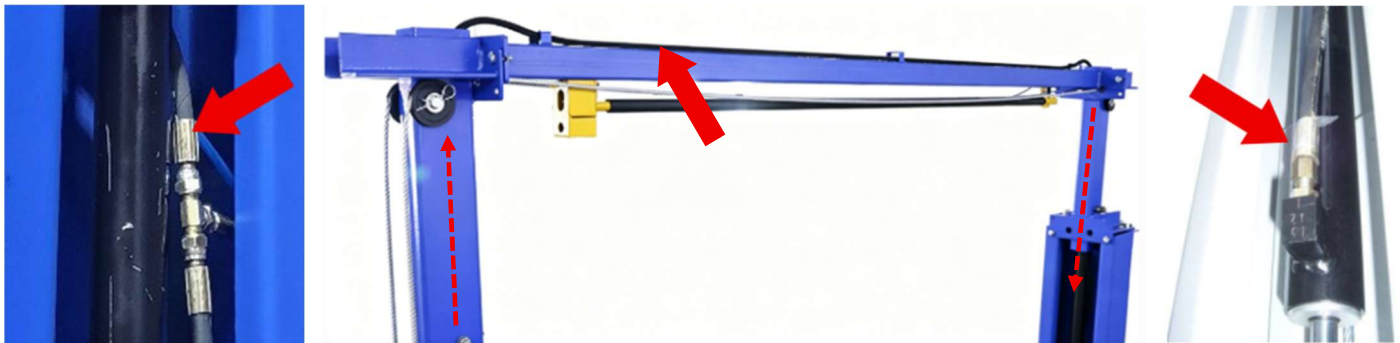

Fig. 12
15. Install the Ext. Ht. Long Hyd Hose (10) connecting one end to the Tee Fitting inside the Mainside Column Tee Fitting, then routing up and through the Upright, across the OH Beam through brackets, then down through the opposite Upright to connect to the Cylinder Fitting Port in the Offside Column (**Fig 12**).